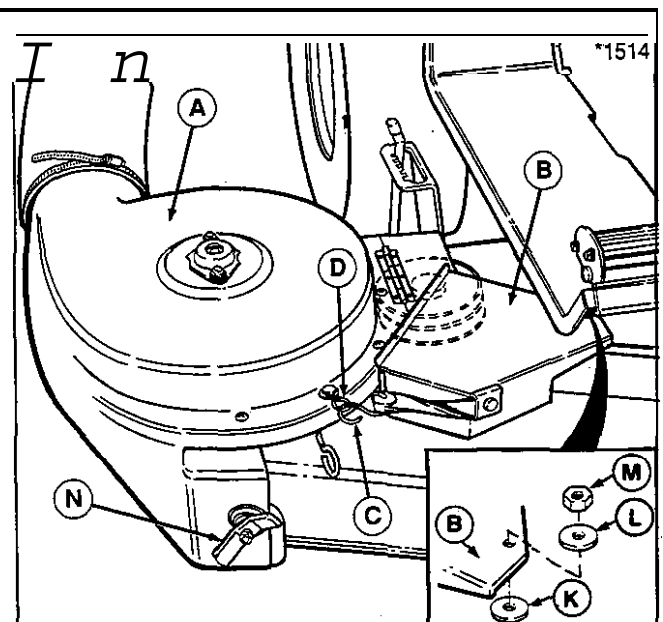

Figure 8.
11. Install the pulley cover (B, figure 8) with hardware shown, items E through M. (Figure 8 shows blower housing but it is not installed at this point of the procedure.)
- Pivot cover (B, figure 8) away to expose the arbor.